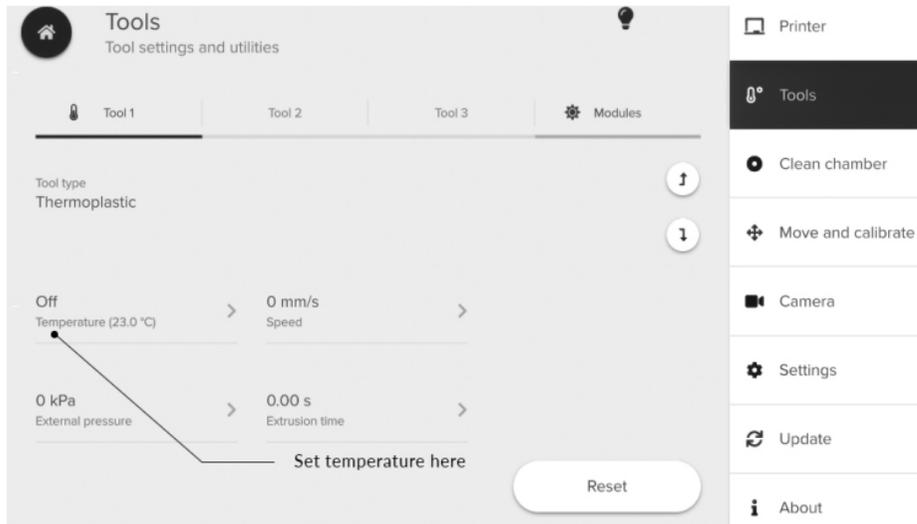

Figure 5: Presetting temperature for the Thermoplastic Printhead.
3. Set the printhead temperature (Figure 5).